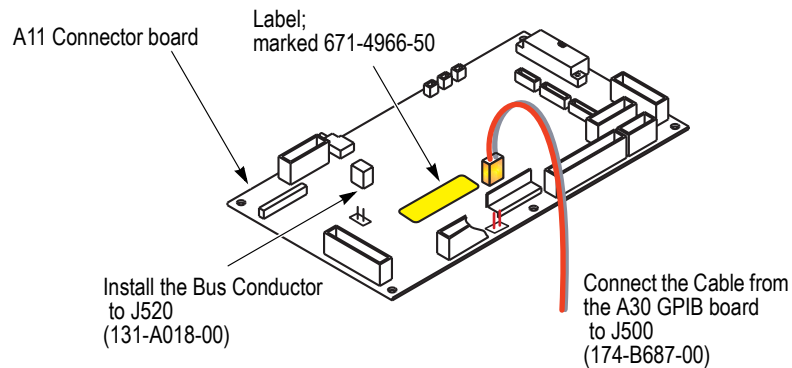

Figure 6: Modifying the A11 Connector board
1. Install the bus conductor included in this kit to J520 on the A11 Connector board. See Figure 6.